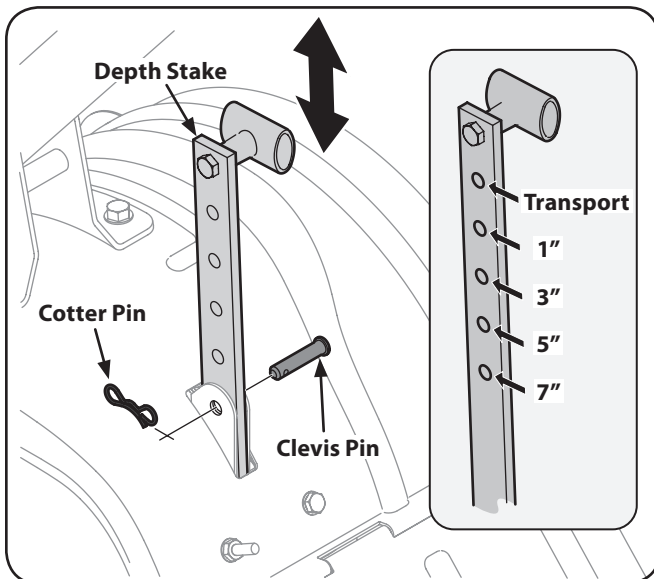

Figure 5-1
1. When using the tiller for the first time, use the second adjustment hole from the top (1" of tilling depth). See Fig. 5-1.
6. To adjust the depth stake, remove the clevis pin and cotter pin. Move the depth stake to the desired setting and secure with the clevis pin and cotter pin. See Fig. 5-1.